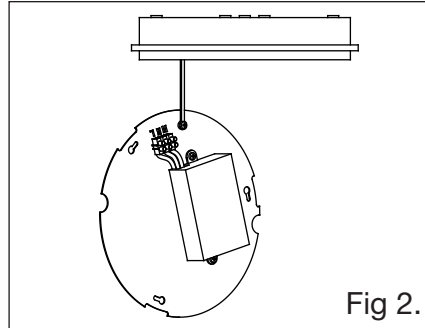

Fig 2.
6. Connect the supply cables neutral, earth and live wires to the terminal block as marked, Fig 2.